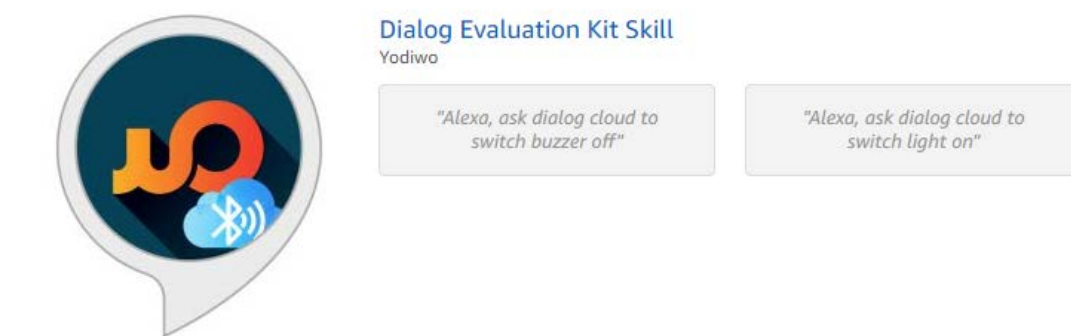

Figure 69: Dialog Evaluation Kit Skill for Alexa
4. Select and enable the skill (Figure 69)